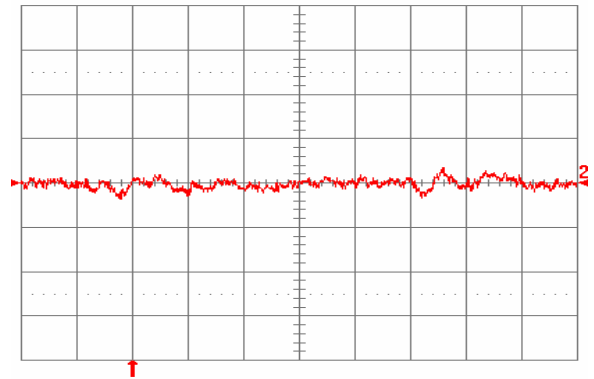

**Fig. 1.2V.14:** Test Setup for measuring input reflected ripple currents,  $i_c$  and  $i_s$ .
**Fig. 1.2V.1:** Available load current vs. ambient air temperature and airflow rates for SQ48T15012 converter with D height pins mounted vertically with  $V_{in} = 48\text{ V}$ , air flowing from pin 3 to pin 1, and maximum FET temperature  $\leq 120\text{ }^\circ\text{C}$ .
**Fig. 1.2V.2:** Available load current vs. ambient air temperature and airflow rates for SQ48T15012 converter with D height pins mounted horizontally with  $V_{in} = 48\text{ V}$ , air flowing from pin 3 to pin 1, and maximum FET temperature  $\leq 120\text{ }^\circ\text{C}$ .
**Fig. 1.2V.3:** Available load current vs. ambient air temperature and airflow rates for SQ48S15012 converter mounted vertically with  $V_{in} = 48\text{ V}$ , air flowing from pin 3 to pin 1, and maximum FET temperature  $\leq 120\text{ }^\circ\text{C}$ .
**Fig. 1.2V.4:** Available load current vs. ambient air temperature and airflow rates for SQ48S15012 converter mounted horizontally with  $V_{in} = 48\text{ V}$ , air flowing from pin 3 to pin 1, and maximum FET temperature  $\leq 120\text{ }^\circ\text{C}$ .
**Fig. 1.2V.5:** Efficiency vs. load current and input voltage for SQ48T/S15012 converter mounted vertically with air flowing from pin 3 to pin 1 at a rate of 300 LFM (1.5 m/s) and  $T_a = 25\text{ }^\circ\text{C}$ .
**Fig. 1.2V.6:** Efficiency vs. load current and ambient temperature for SQ48T/S15012 converter mounted vertically with  $V_{in} = 48\text{ V}$  and air flowing from pin 3 to pin 1 at a rate of 200 LFM (1.0 m/s).
**Fig. 1.2V.7:** Power dissipation vs. load current and input voltage for SQ48T/S15012 converter mounted vertically with air flowing from pin 3 to pin 1 at a rate of 300 LFM (1.5 m/s) and  $T_a = 25\text{ }^\circ\text{C}$ .
**Fig. 1.2V.8:** Power dissipation vs. load current and ambient temperature for SQ48T/S15012 converter mounted vertically with  $V_{in} = 48\text{ V}$  and air flowing from pin 3 to pin 1 at a rate of 200 LFM (1.0 m/s).
**Fig. 1.2V.9:** Turn-on transient at full rated load current (resistive) with no output capacitor at  $V_{in} = 48\text{ V}$ , triggered via ON/OFF pin. Top trace: ON/OFF signal (5 V/div.). Bottom trace: output voltage (0.5 V/div.). Time scale: 2 ms/div.
**Fig. 1.2V.10:** Turn-on transient at full rated load current (resistive) plus 10,000  $\mu\text{F}$  at  $V_{in} = 48\text{ V}$ , triggered via ON/OFF pin. Top trace: ON/OFF signal (5 V/div.). Bottom trace: output voltage (0.5 V/div.). Time scale: 2 ms/div.
**Fig. 1.2V.11:** Output voltage response to load current step-change (3.75 A – 7.5 A – 3.75 A) at  $V_{in} = 48$  V. Top trace: output voltage (100 mV/div.). Bottom trace: load current (5 A/div.). Current slew rate: 0.1 A/ $\mu$ s.  $C_o = 1$   $\mu$ F ceramic. Time scale: 0.2 ms/div.
**Fig. 1.2V.12:** Output voltage response to load current step-change (3.75 A – 7.5 A – 3.75 A) at  $V_{in} = 48$  V. Top trace: output voltage (100 mV/div.). Bottom trace: load current (5 A/div.). Current slew rate: 5 A/ $\mu$ s.  $C_o = 450$   $\mu$ F tantalum + 1  $\mu$ F ceramic. Time scale: 0.2 ms/div.
**Fig. 1.2V.13:** Output voltage ripple (20 mV/div.) at full rated load current into a resistive load with  $C_o = 10$   $\mu$ F tantalum + 1  $\mu$ F ceramic and  $V_{in} = 48$  V. Time scale: 1  $\mu$ s/div.
**Fig. 1.2V.15:** Input reflected ripple current,  $i_c$  (100 mA/div.), measured at input terminals at full rated load current and  $V_{in} = 48$  V. Refer to Fig. 1.2V.14 for test setup. Time scale: 1  $\mu$ s/div.
**Fig. 1.2V.16:** Input reflected ripple current,  $i_s$  (10 mA/div.), measured through 10  $\mu$ H at the source at full rated load current and  $V_{in} = 48$  V. Refer to Fig. 1.2V.14 for test setup. Time scale: 1  $\mu$ s/div.
**Fig. 1.2V.17:** Output voltage vs. load current showing current limit point and converter shutdown point. Input voltage has almost no effect on current limit characteristic.
**Fig. 1.2V.18:** Load current (top trace, 20 A/div., 20 ms/div.) into a 10  $m\Omega$  short circuit during restart, at  $V_{in} = 48$  V. Bottom trace (20 A/div., 1 ms/div.) is an expansion of the on-time portion of the top trace.